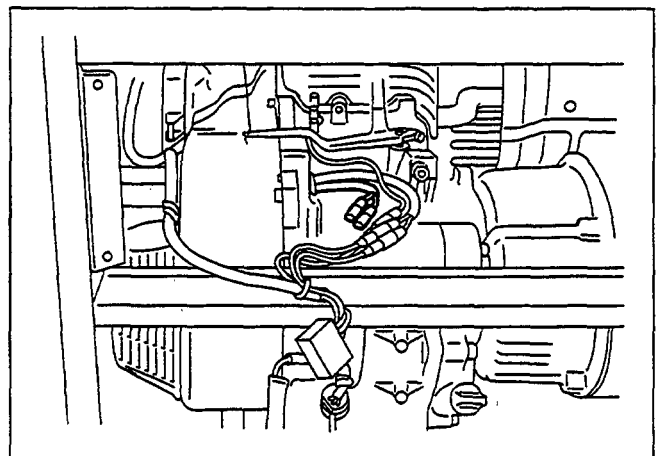

Fig. 10-3-2
- (5) Disconnect the connectors on the wiring between from the control box and the engine. (See Fig. 10-3-2.)